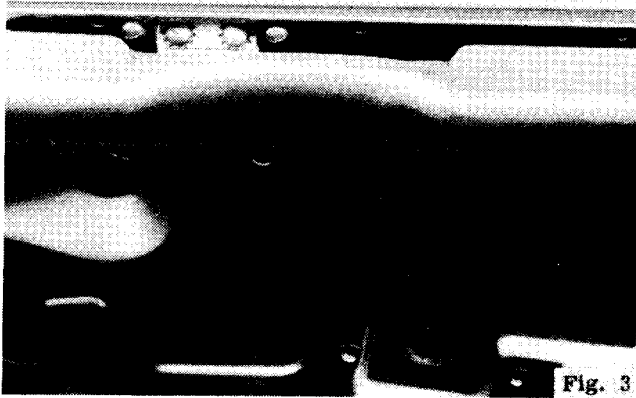

Fig. 3
5. Install Tinnerman speed nuts on support. Install window guide and support in regular position in door. If part of the original support is still in place it will be necessary to cut or break off the pieces in order to get service support properly installed in the cutout section of the flange. Fig. 3 shows support correctly installed.